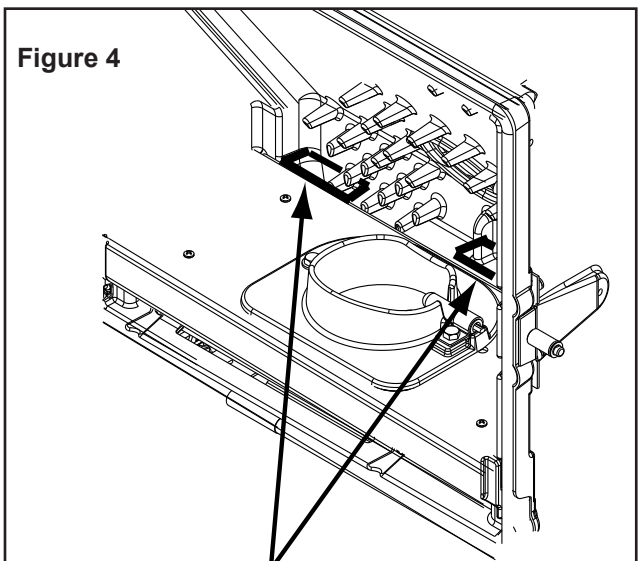

Figure 4
4. Use the crevice tool to finish cleaning the heat exchanger fins. It is critical that the 2 exhaust exits the back of the firebox floor (left and right) be thoroughly cleaned. **Figure 4.** There are several ways this can done.